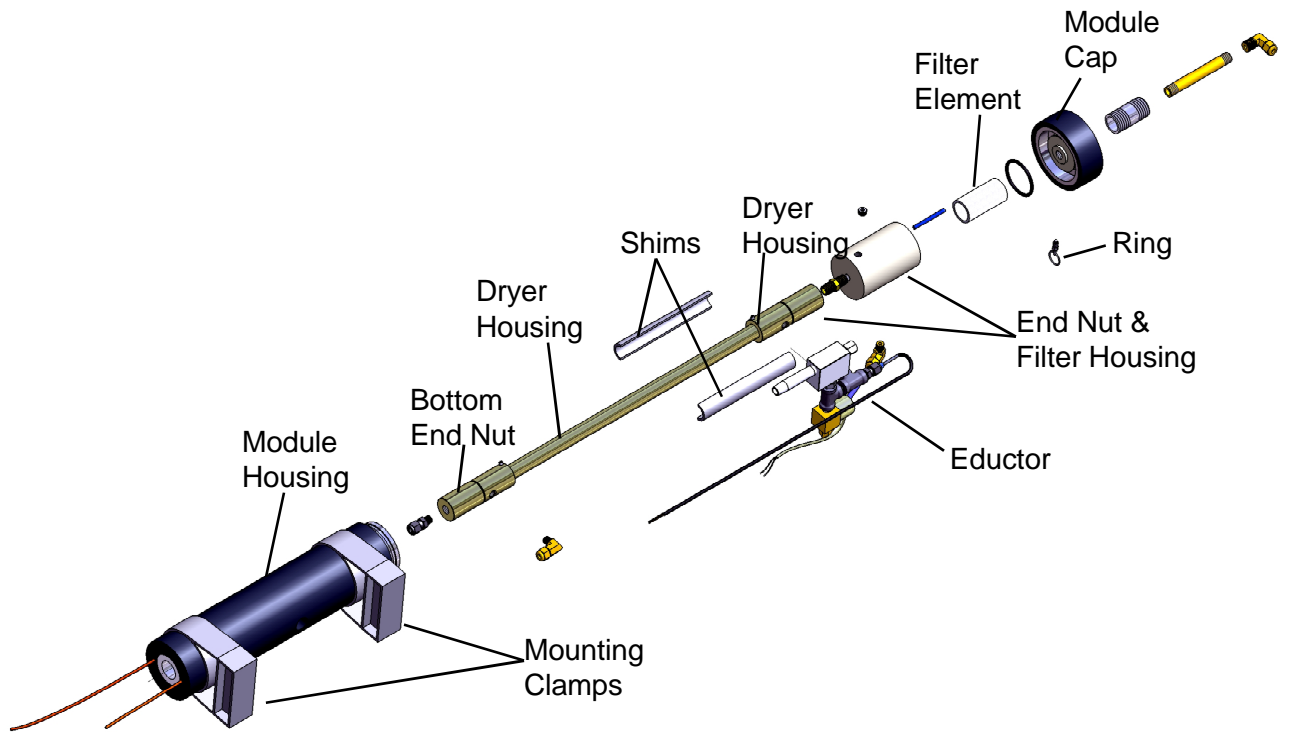

Figure 5
3. Disconnect sample inlet line from top of module (see Figure 5).